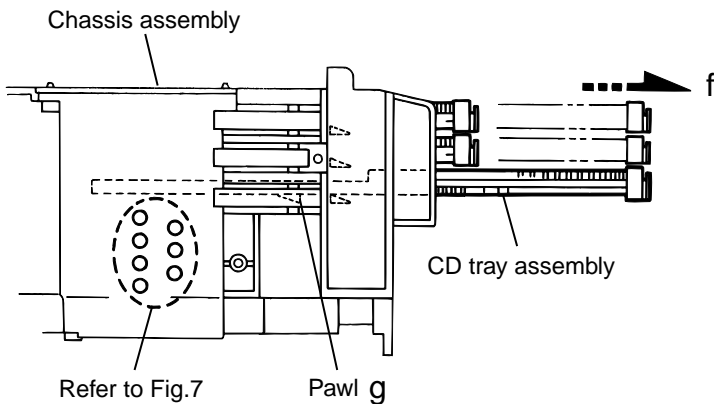

Fig.6
12. Make sure that the driver unit elevator is positioned as shown in Fig.6 from to the second or fifth hole on the left side face of the CD Traverse mechanism assembly.
14. Pull out all of the three stages of CD tray assembly in the arrow direction "f" until these stages stop (See Fig.6).